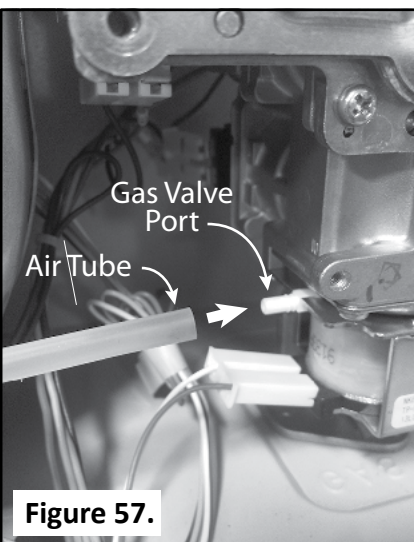

Figure 57.
- 9.5 Disconnect the air tube off the left side of the gas valve (**Figure 57.**) See also “Clear Plastic Tube” in Figure 41, p. 49.